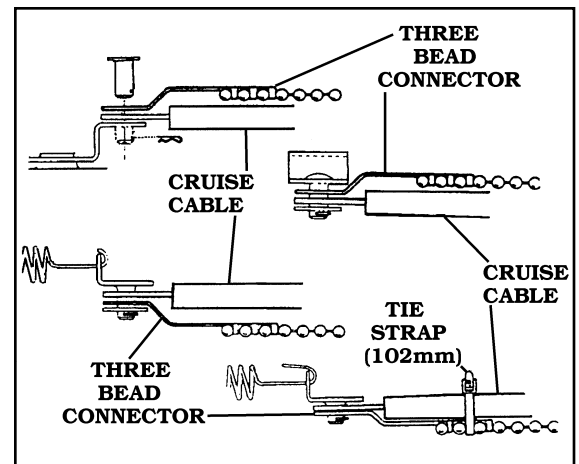

FIGURE 18
4. THE **THREE BEAD CONNECTOR** MAY NEED TO BE BENT SO THAT IT CLEARS THE THROTTLE CABLE. **FIGURE 18** USE THE **TIE STRAP (102mm)** TO HOLD THE **THREE BEAD CONNECTOR** TO THE SLEEVE OF THE THROTTLE CABLE. **FIGURE 18**